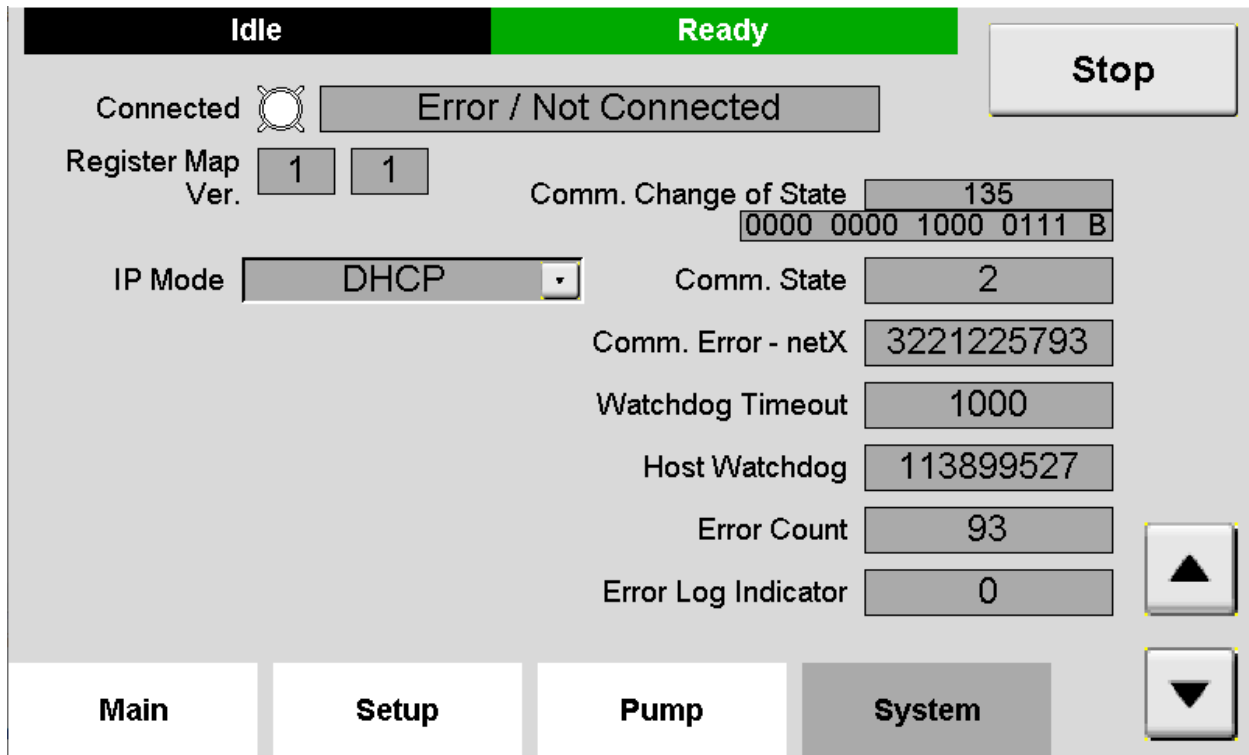

Figure 3.13 Communication Configuration Screen
3.2.5.12 Communication Configuration Screen (Figure 3.13)